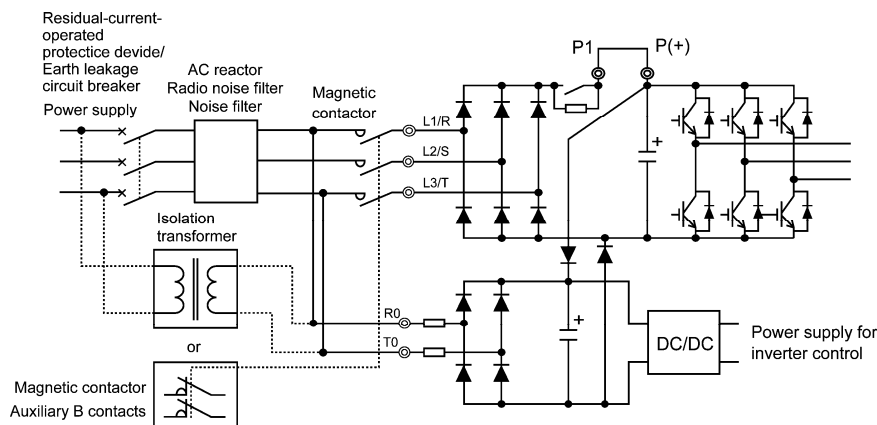

Figure 2.8 Connection Example of Residual-current-operated Protective Device (RCD)/Earth Leakage Circuit Breaker (ELCB)
**Note** When introducing a residual-current-operated protective device (RCD)/earth leakage circuit breaker (ELCB), connect its output (secondary) side to terminals R0 and T0. Connecting its input (primary) side to those terminals causes the RCD/ELCB to malfunction since the input power voltage to the inverter is three-phase but the one to terminals R0 and T0 is single-phase. To avoid such problems, be sure to insert an isolation transformer or auxiliary B contacts of a magnetic contactor in the location shown in Figure 2.8.